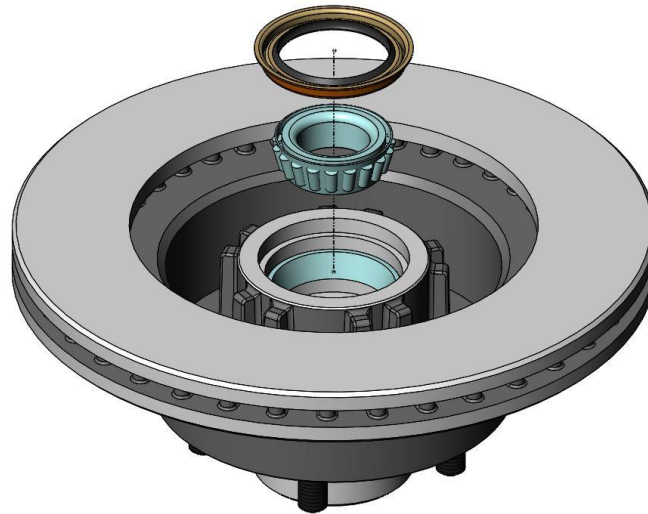

Figure 4 – Inner Wheel Bearing & Seal Installation
- The wheel bearings can now be packed with a high quality wheel bearing grease available at your local parts store and the bearings can be installed in the rotors at this time. Once the inner bearing is installed, tap the inner seal in at this point. Figure 4 show the bearing and seal being installed.